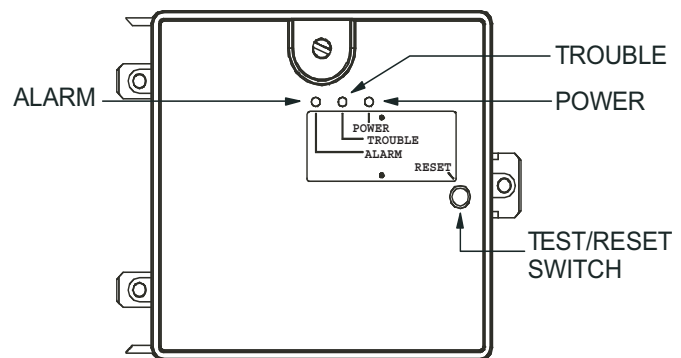

Fig. 45 — Controller Assembly
- The contacts on the controller's supervisory relay switch positions (see Fig. 45).